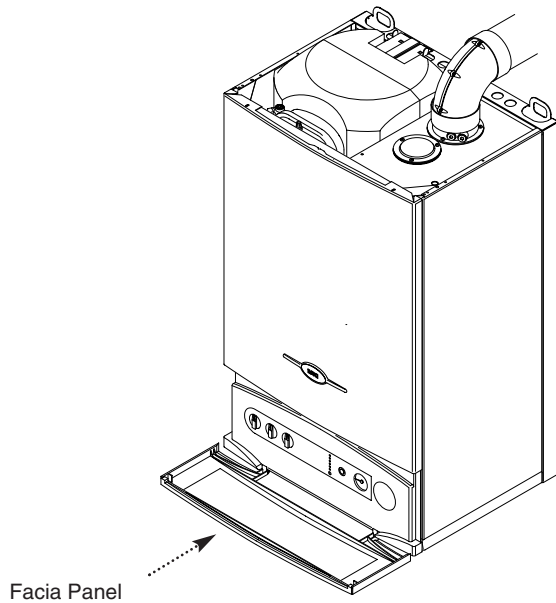

Fig. 1
2. Hinge down the facia panel (Fig. 1). Check that the central heating pressure is in the green area on the gauge. The Power ON indicator will be lit (☉).